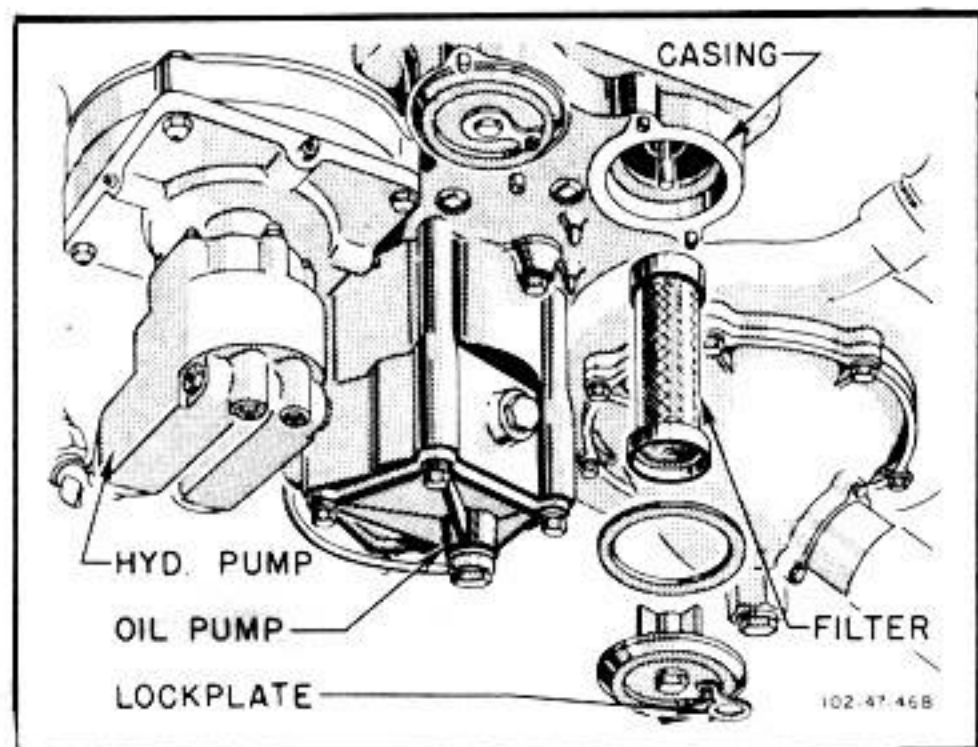

Figure 271—Scavenge Oil Filter Screens
(1) DESCRIPTION.—Two filters on the inlet side of each scavenge pump clean the lubricating oil after it has passed through the engine; the scavenge pumps return the filtered oil through the cooler to the oil tank.
(2) CLEANING SCAVENGE OIL FILTERS. (See figure 271.)—The two scavenge filters, located in the lower crankcase, will be removed and cleaned every 25 hours of engine operation. Unscrew the cap nuts to remove the screens, and clean the screens with naphtha or unleaded gasoline. While the screens are removed, clean their casings with lintless cloth. Then replace the filters.